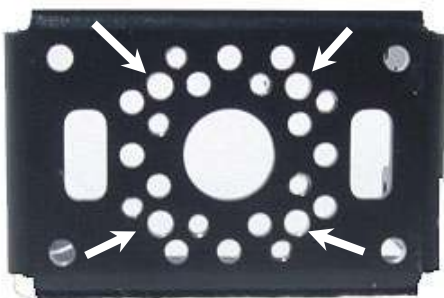

Figure 40
9. Identify the holes as outlined in figure 40 or 41 which will be used in the next step of the assembly process.